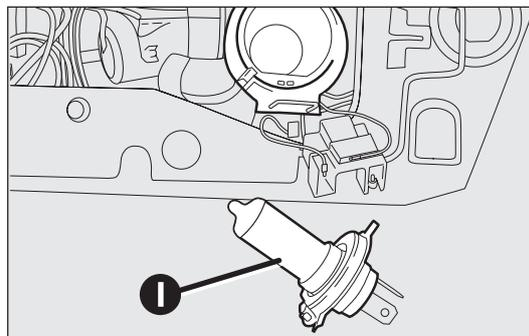

fig. 146
- remove the burnt bulb I-fig. 146 and fit the new one;